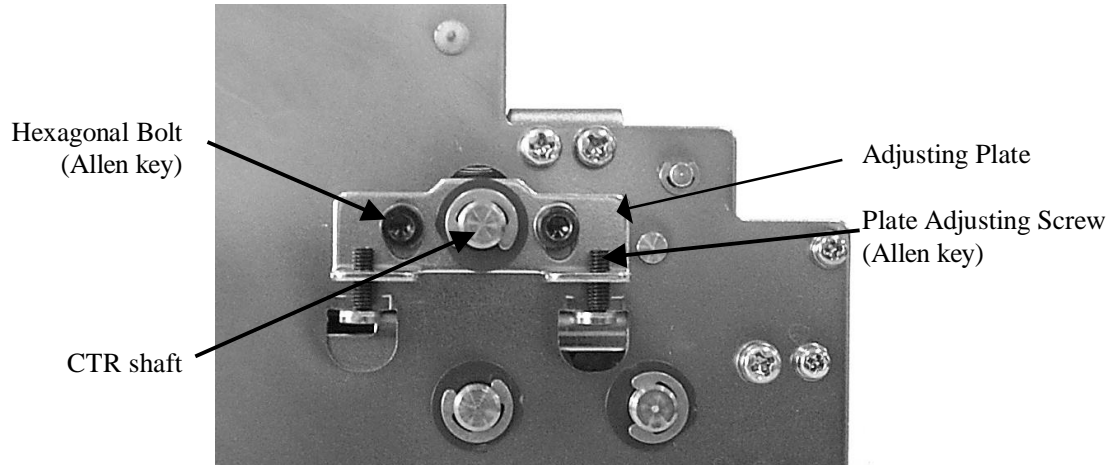

Fig. 5.3
- 5.3.4 Release the counter turning roller (part no. 30/70) by slackening the four hexagon headed bolts (part no. 6) fixing the adjusting plate (part no.7) to the chassis. See Figure 5.3.
- 5.3.5 If the dispenser is being adjusted for a thinner card, it will be necessary to back off the counter turning roller adjusting grub screws (part no. 8) until they are flush with the adjusting plate (part no. 7). See Figure 5.3.